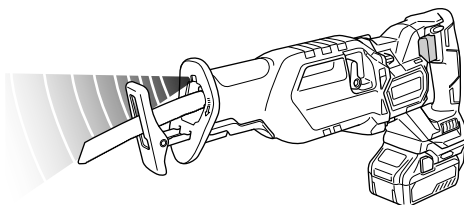

Fig. 36
10. LED light warning signals (Fig. 36)